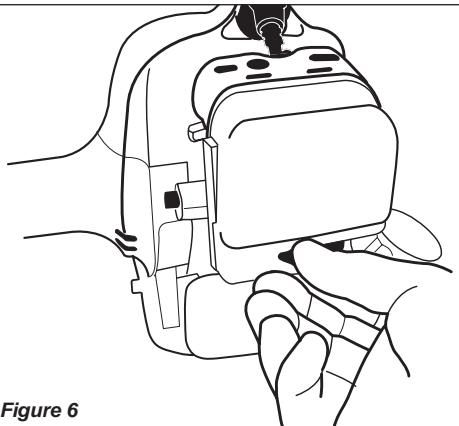

Figure 6
1. Loosen the air cleaner cover knob and remove the air cleaner cover. See Figure 6.
2. Loosen the lock nut on the cable adjuster. See Figure 6.